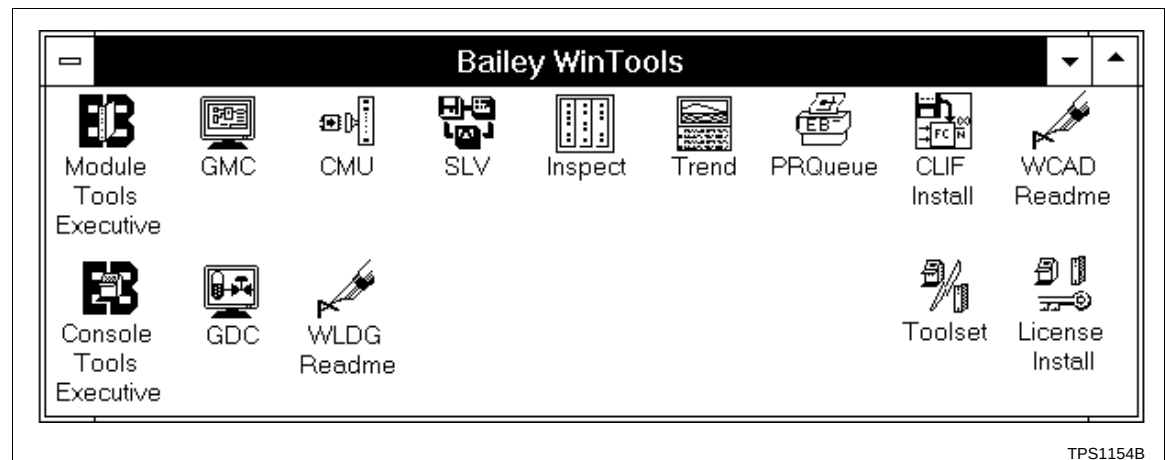

Figure 3-3. *Bailey WinTools* Group
2. Double click on the module tools executive icon. Refer to Figure 3-3.